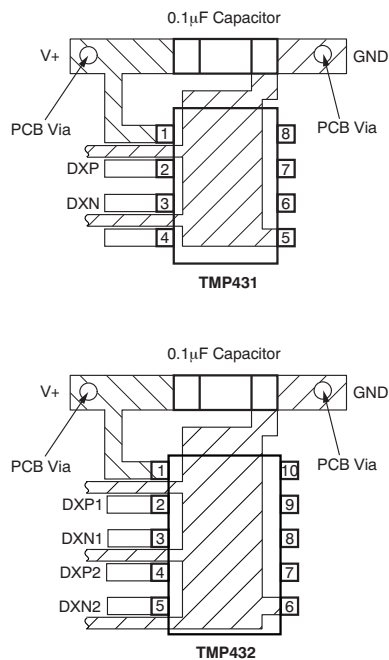

Figure 25. Suggested Bypass Capacitor Placement
4. Use a 0.1- μ F local bypass capacitor directly between the $V+$ and GND of the TMP43x. Figure 25 illustrates the suggested bypass capacitor placement for the TMP43x. This capacitance includes any cable capacitance between the remote temperature sensor and TMP43x.